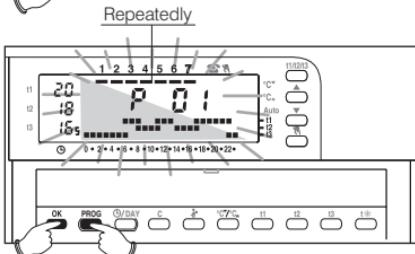

Fig. 15
**P 01** will blink on the display (fig. 15).